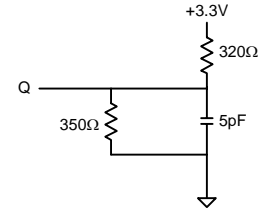

Figure 2. Output Load Equivalent
- For output loading, C_L = 5pF, as shown in Figure 2. Transition is measured $\pm 150mV$ from steady state voltage.
- The load used for V_{OH}, V_{OL} testing is shown in Figure 2. AC load current is higher than the given DC values. AC I/O curves are available upon request.
- Snooze (ZZ) input is recommended that users plan for four clock cycles to go into SLEEP mode and four clocks to emerge from SLEEP mode to ensure no data is lost.